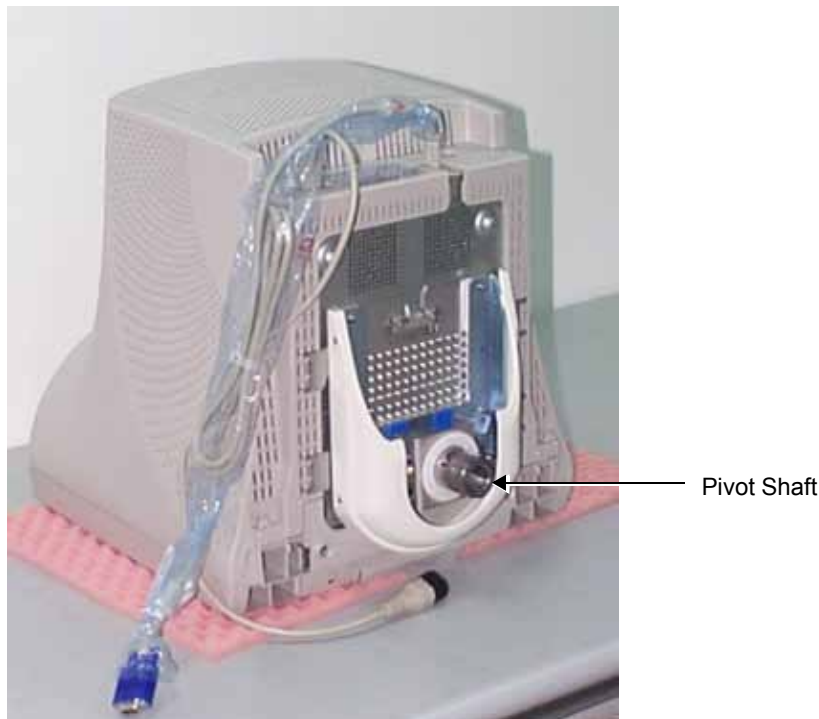

Figure 8-31 New Samsung 17" Monitor - Viewed from Underside
- 1.) In the upright position, carefully lift the new monitor and insert its pivot shaft (see Figure 8-31) through the Teflon washer and into the hole on the monitor base.